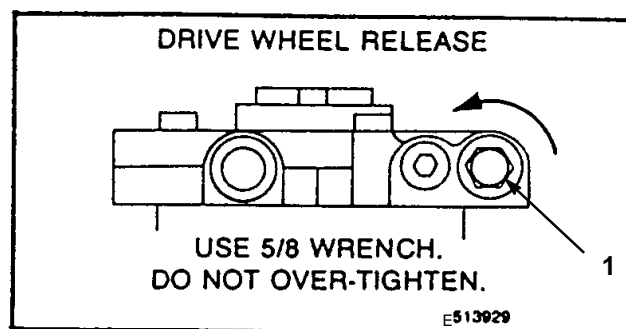

Figure 13
2. Rotate the by-pass valves counterclockwise 1 turn to push. This allows hydraulic fluid to by-pass the pump enabling the wheels to turn (Fig. 13).
1. Turn the by-pass valves in to operate (Fig. 13).